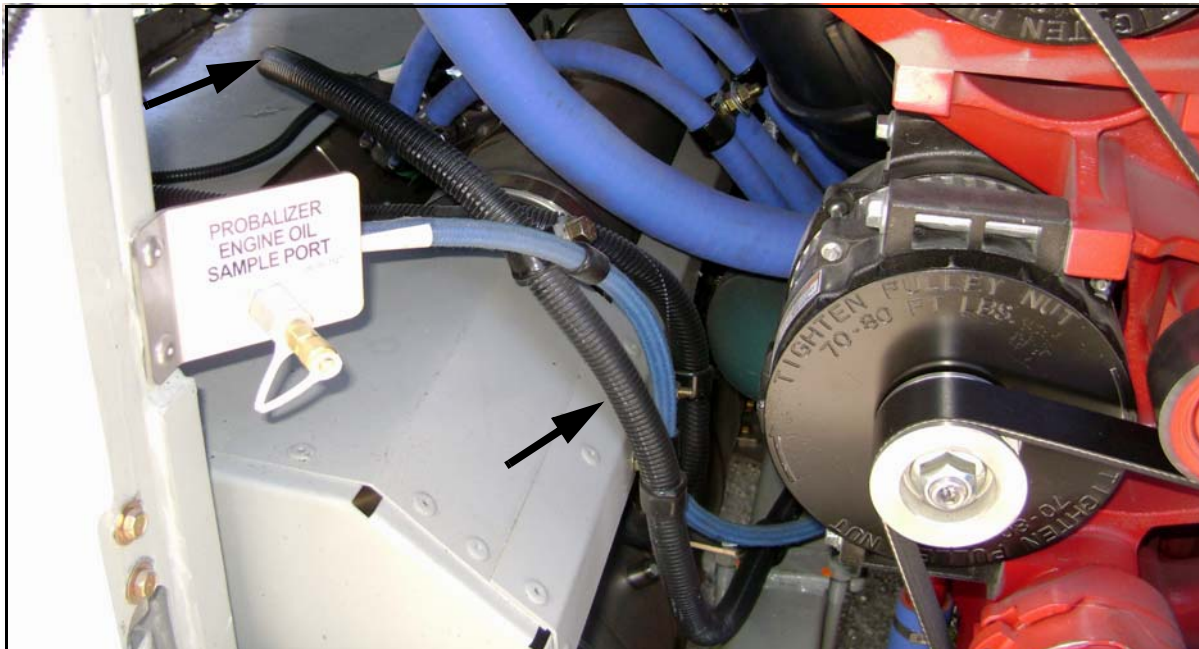

Figure 2.
5. Locate the diesel exhaust fluid (DEF) pressure line in the rear, roadside section of the engine compartment (refer to Figures 2 and 3).